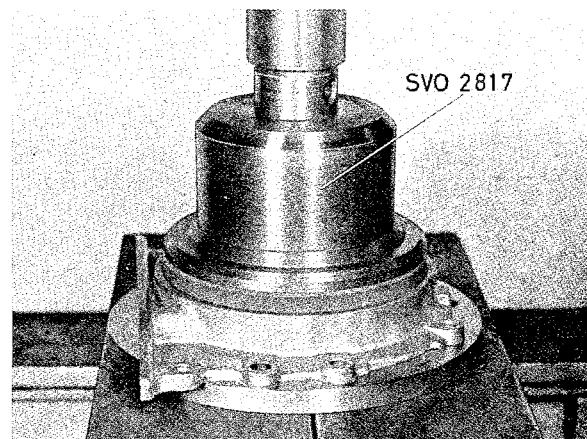

Fig. 2-25. Installing oil seal
3. Press in the sealing ring with tool 2817, see Fig. 2-25.
NOTE. First inspect the wear surface of the crankshaft. The sealing ring can be fitted in three positions with tool 2817, see Fig. 2-25. With a new crankshaft or a crankshaft with approved wear surface, fit the seal in its outer position (fully screwed in center bolt). With the wear mark on the crankshaft, fit the crankshaft with the center bolt screwed out a couple of turns or completely.